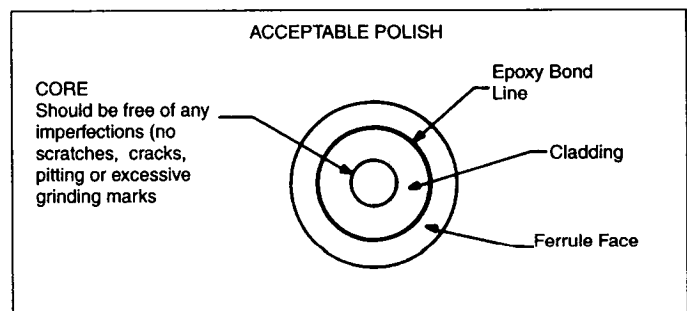

Figure 1
23. Polish terminus until an optically acceptable fiber end has been produced, approximately 1 minute. (See Figure 1). If a small amount of epoxy is on the polished surface, continue polishing until no epoxy can be seen with the naked eye. Inspect end of the optical fiber for desired finish by examining it with the Fibrscope\* portable microscope or equivalent. Repeat polishing if required.
27. Using a circular motion of approximately 2 inches in diameter, polish terminus on 1 micron lapping film backed by a smooth hard surface, approximately 40-50 seconds. If a small amount of epoxy is on the polished surface, continue polishing until no epoxy can be seen with the naked eye. Inspect end of the optical fiber for desired finish using a microscope. (See Figure 1). Repeat for other termini. (For an exceptionally fine finish, continue polishing terminus for 20-30 seconds using .3 micron lapping film. Thoroughly clean termini before proceeding with this step).